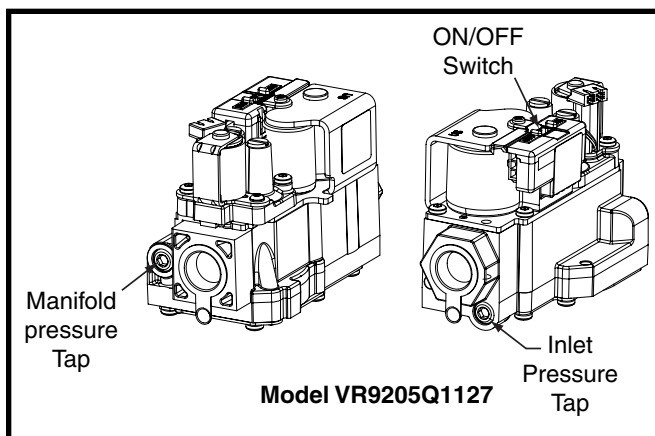

Figure 3. Inlet & Manifold Pressure Tap Locations
3. Move the gas valve ON/OFF switch (see Figure 3) to the OFF position.
2. Using a 3/16" Allen wrench, remove the plug from the inlet pressure tap (INLET side of gas valve). See Figure 3.
4. Place the gas valve ON/OFF switch/knob to the ON position. See Figure 3.
3. Using a 3/16" Allen wrench, remove the manifold pressure tap plug located on the outlet side of the gas valve. See Figure 3 (page 3).